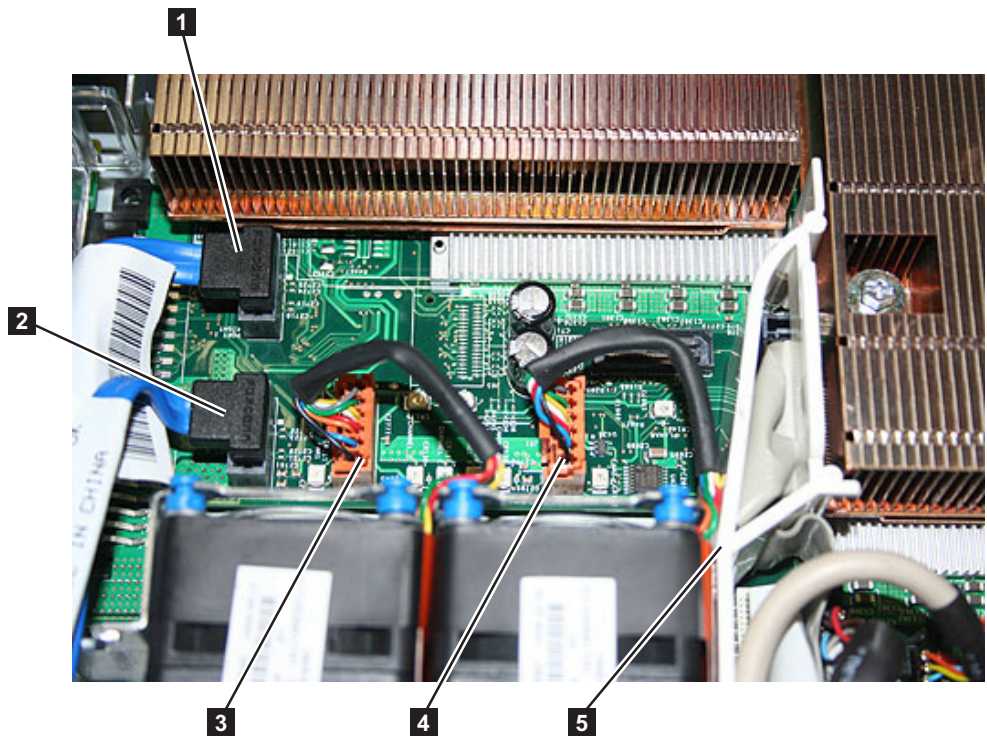

Figure 292. Connectors on the SAN Volume Controller 2145-8G4 system board
13. Replace the cable connectors for fans 2 and 1, as shown in Figure 292.